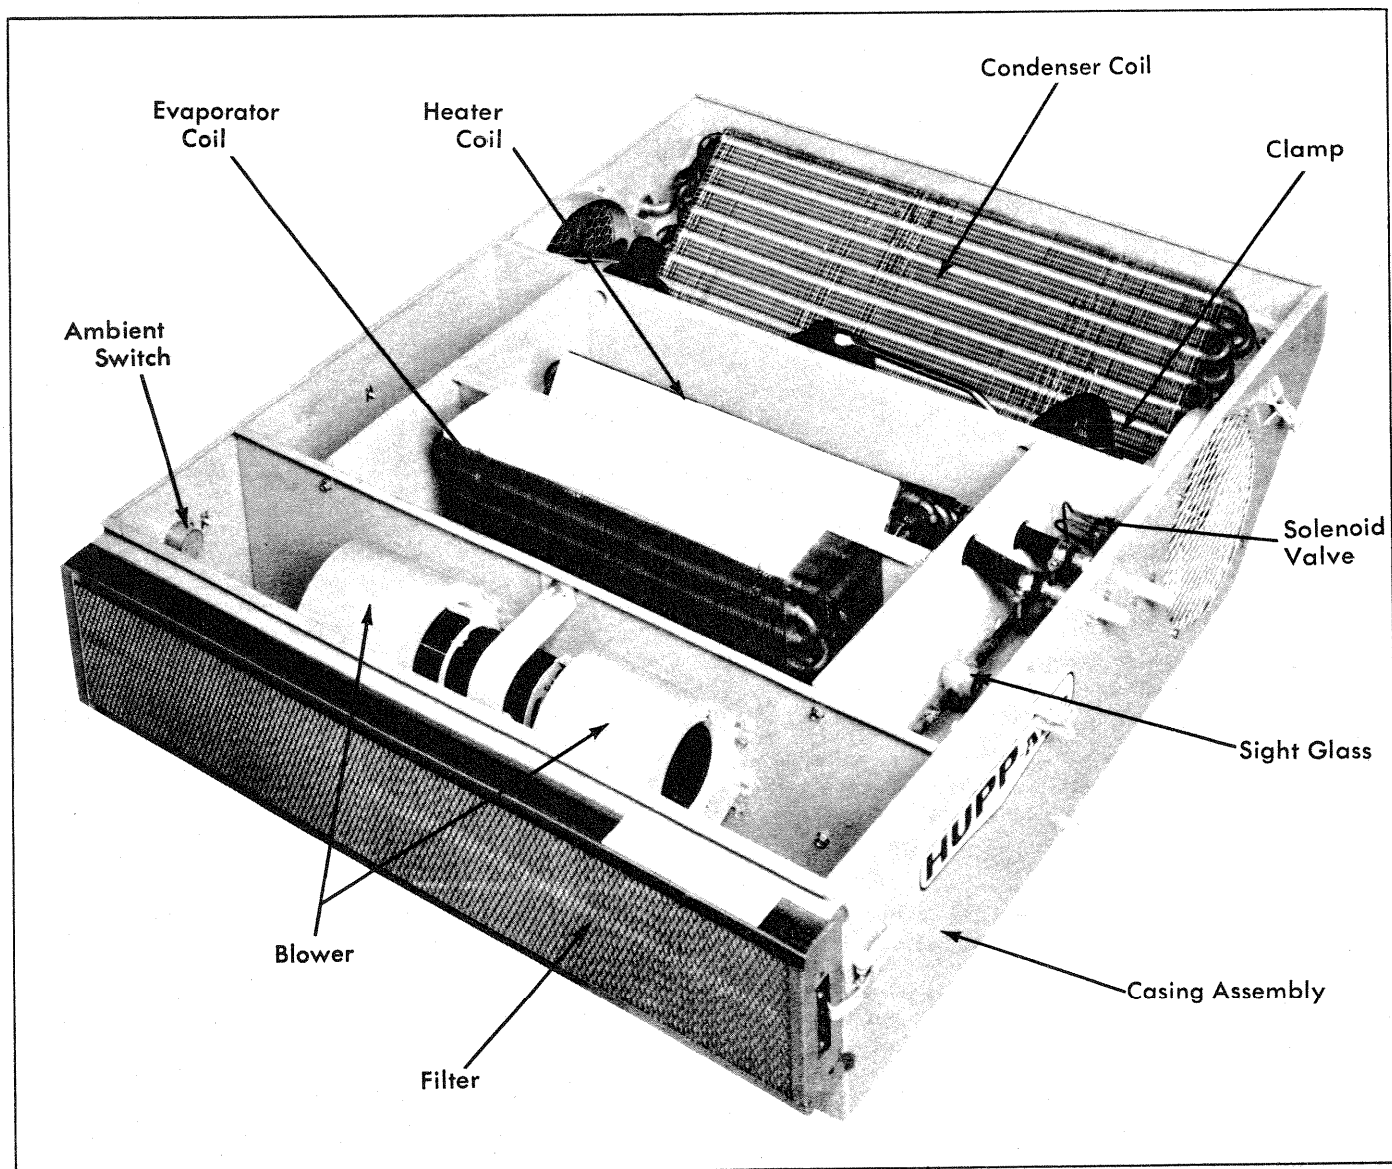
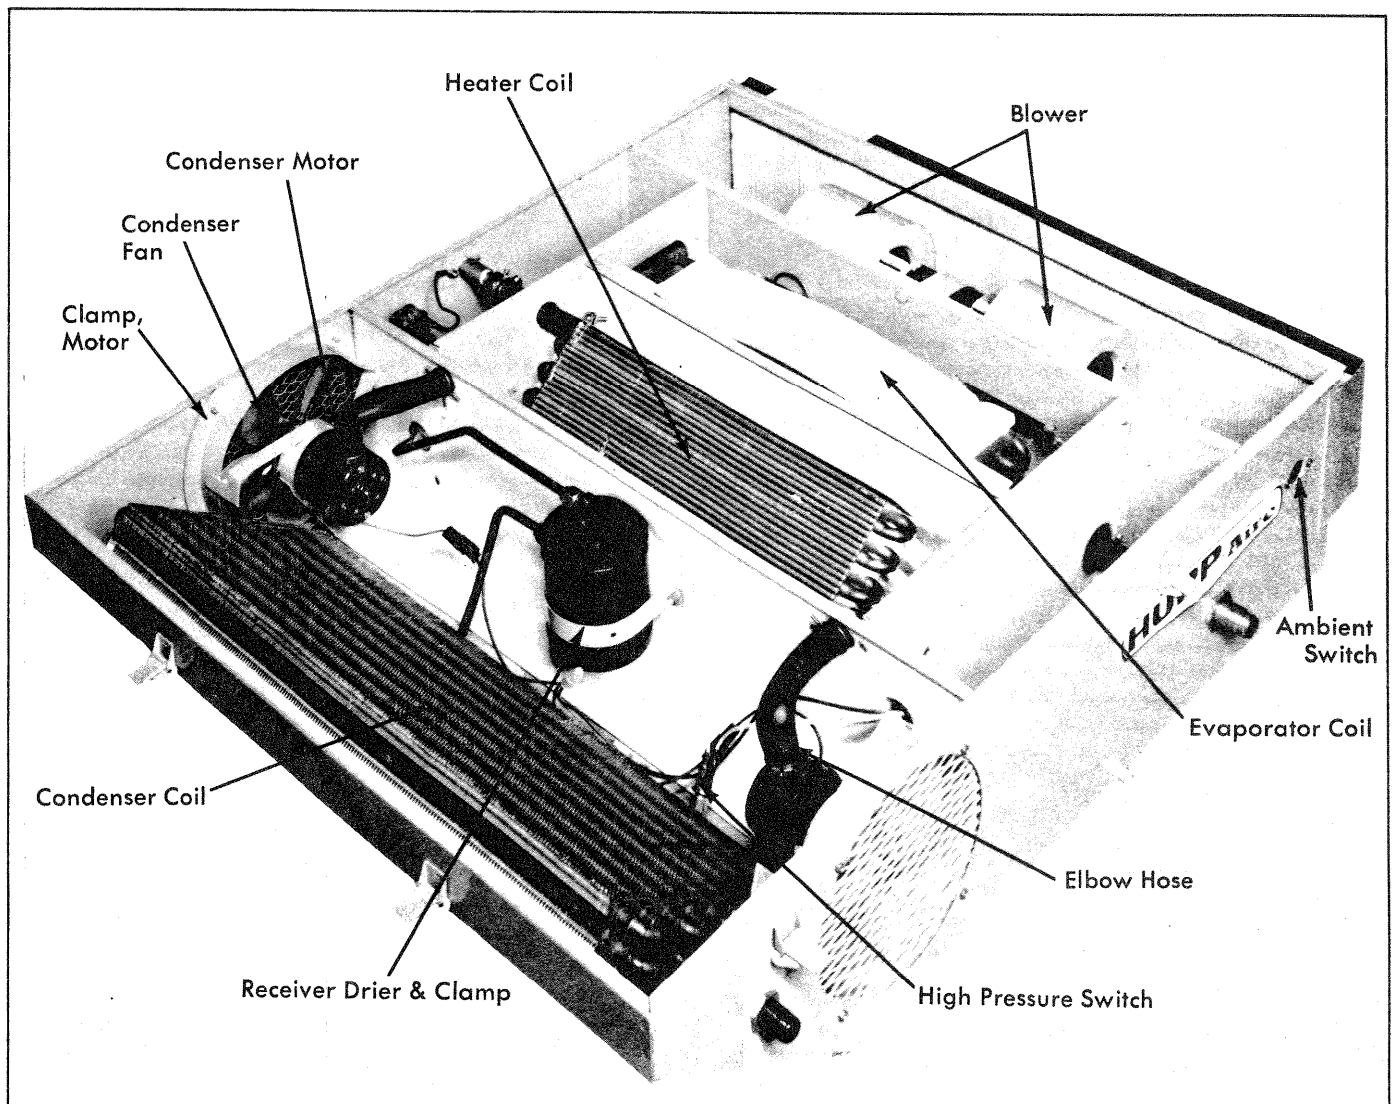

FIGURE 13
FIGURE 14
When the fan switch is turned "on" it operates a twin high pressure blower (fig. 13) that draws outside air through an efficient filter (fig. 13) and then discharges it into the evaporator section of the unit. The air passes through the evaporator coil (fig. 13) and is cooled. Leaving this coil, the air is either diverted immediately into the cab through directional louvers in the console, (fig. 5) or it can be deflected through a heater coil (fig. 13) to warm it if it is too cool. This diversion of air is caused by a damper (fig 6) which is operated by the selector lever in the console. This damper can be positioned to give variable degrees of temperature by proportionate blending of the
air leaving the evaporator coil. Another function of the fan switch is to energize the compressor clutch and a relay to operate the condenser fans (fig. 14). An ambient temperature sensing switch (fig. 13) is in series with these parts and if the temperature is below 50°F. it prevents their operation. A toggle switch has also been placed in the circuit to disengage the condenser fans and clutch when more heat is required above 50° ambient temp. Also this fan switch will energize a solenoid water valve (fig. 13) through a micro switch (fig. 8) activated by the selector lever in the console. Thus, if the lever is in full "cool" position the valve will not open, but just as soon as the lever begins to move toward "hot" the valve will open allowing hot water to flow through the heater coil (fig. 14) with resultant rise in air temperature. This mixture of air is directed into the cab through adjustable directional louvers which allow the air to be directed as you require for comfort. All air entering the cab is drawn from the outside, thus the cab is pressurized, which prevents infiltration of dirty un-filtered air through cracks and other possible openings in the cab. No recirculated air is used as pressurization would be lost and dirty air could infiltrate the cab. For safety reasons, a high
pressure switch (fig. 14) is in the clutch circuit which will deactivate the compressor should the refrigerant pressure become uncommonly high.
4.3.1 Evaporator Coil (figs. 13 and 14)
4.3.4 Condenser Coil (figs. 13 and 14)
4.3.5 Receiver-Drier (fig. 14)
4.3.6 Sight Glass (fig. 13)
4.3.8 Ambient Switch (figs. 13 and 14)
4.3.9 High Pressure Switch (fig. 14)
4.3.11 Heater Coil (figs. 13 and 14)
4.3.12 Water Control Solenoid Valve (fig. 13)
4.3.14 Pressurizer Blower (figs. 13 and 14)